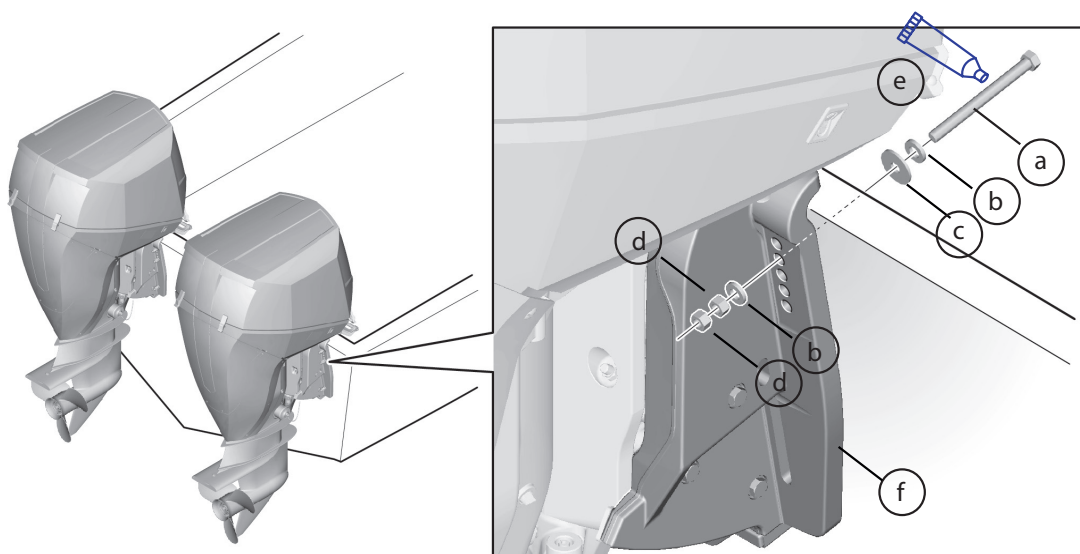

Fig. 45 Mounting the transom
See Figure 45 and Table 46 on page 44 for proper installation. Do as follows:
4. Tighten mounting bolts at a suitable torque suited for the transom material. First tighten the inner nut, followed by the outer nut. The outer nut will act as a lock. See Figure 45.